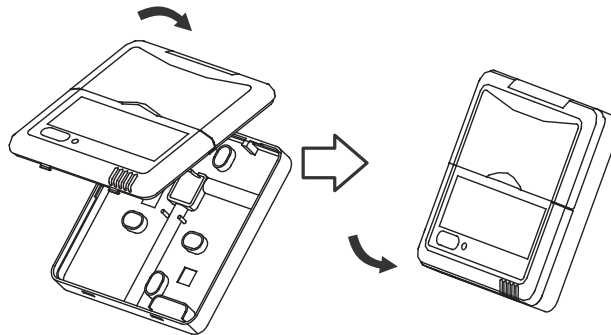

Fig 2-10
- After adjusting the upper case, buckle the upper case. Be sure to avoid clamping the wiring during installation. (Fig 2-10)